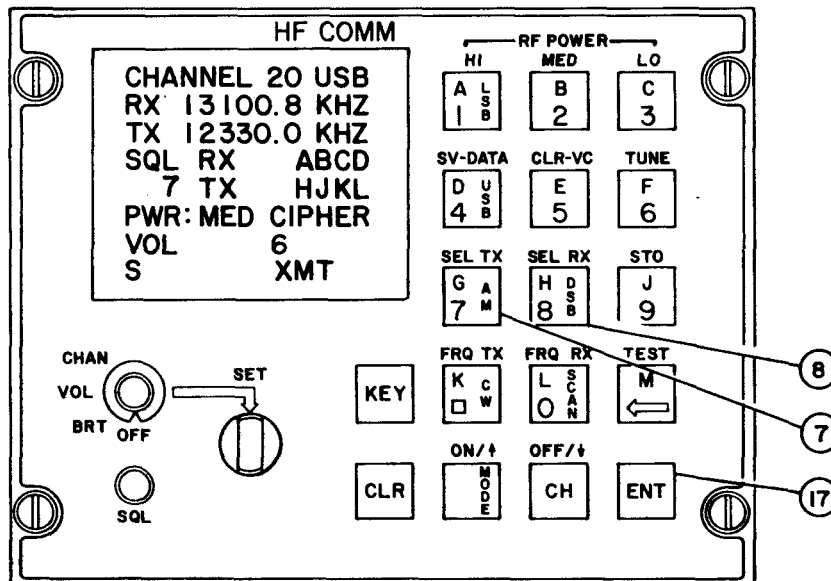

Figure 2-13. Selective Address Function, Controls
- h. **Selective Address.** Refer to figure 2-13. Selective addresses for receive and transmit, with operating instructions are given in the following information.
1. **Selective receive address.** Refer to figure 2-13. To enter selective receive address, press the SEL RX pushbutton (8), then the four letters of the new address from the alphabet letters A thru M on the pushbuttons, then press the ENT pushbutton (17). When the SEL RX pushbutton (8) is pressed, the receive address field header RX goes to inverse video. Refer to figure 2-2 for an example of inverse video. New code letters also appear in inverse video when entered. After the address has been entered and ENT pushbutton (17) has been pressed, the display returns to regular video.